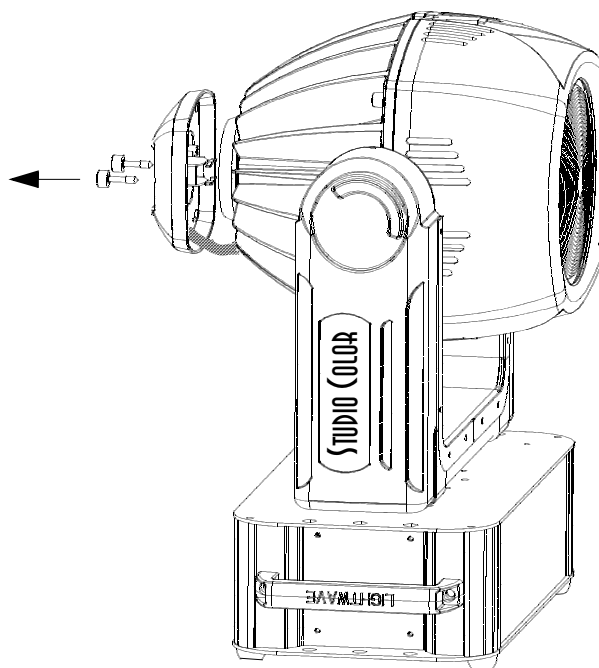

Figure 1.5. Removing the Lamp Access Cap
2. Using the ¼-inch hex wrench, loosen the hex screws located at the rear of the fixture and remove the lamp access cover. Refer to Figure 1.5.